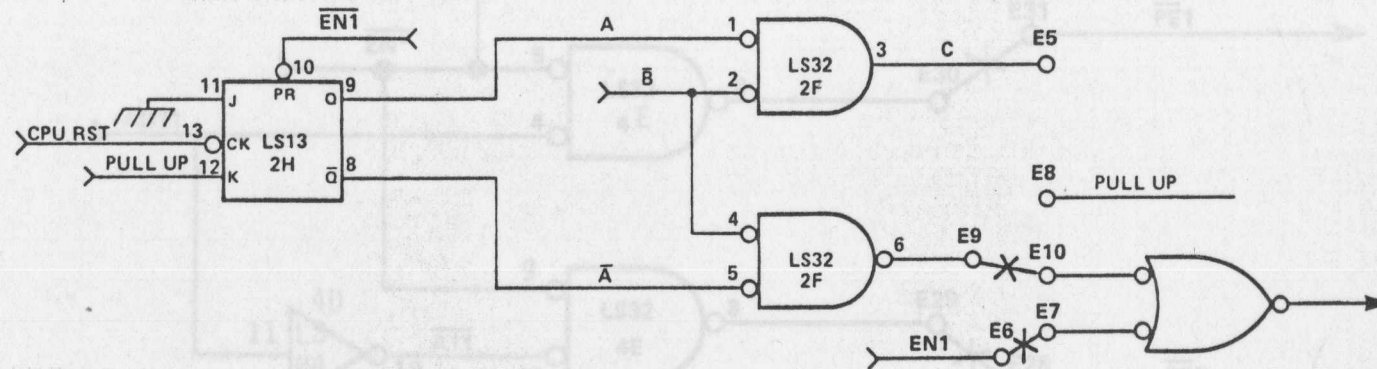

FIG: 5
9.2 Power On/Push-Button Reset Restart (Fig 5)